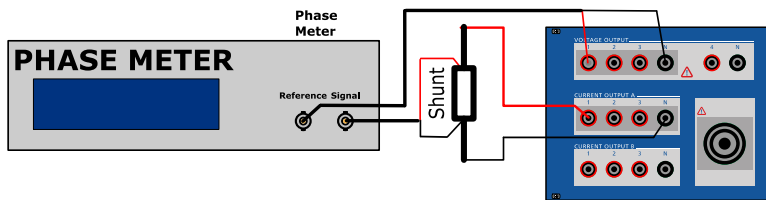

Figure 10 Phase verification setup for current outputs
- ▶ Connect voltage output 1 (V1) to the reference connector on the reference phase meter (Figure 10).